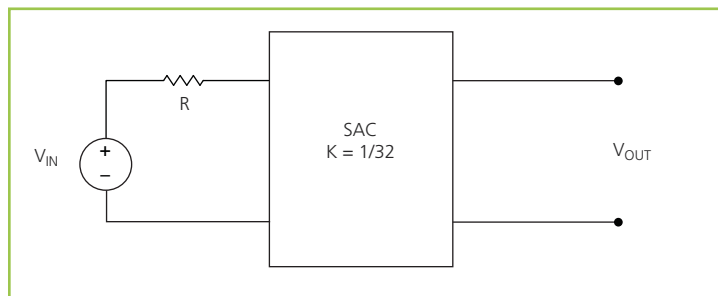

Figure 18 – K = 1/32 Sine Amplitude Converter with series input resistor
now becomes Eq. (2) and is essentially load independent, resistor R is now placed in series with  $V_{IN}$  as shown in Figure 18.
Assuming that  $R = 1 \Omega$ , the effective R as seen from the secondary side is  $0.98 \text{ m}\Omega$ , with  $K = 1/32$  as shown in Figure 18.